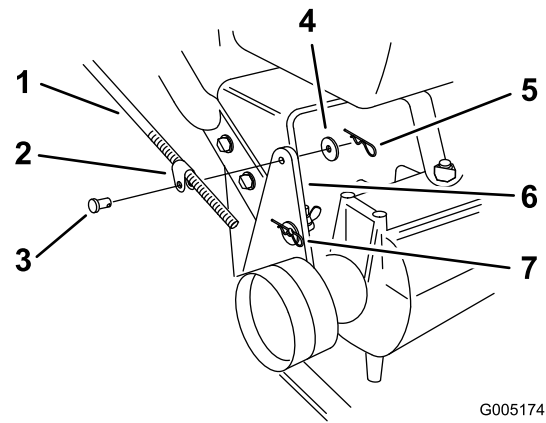

Figure 37
2. Check the operation. If adjustment is required, remove hairpin cotter, washer and clevis pin securing control rod fitting to idler bracket (Figure 37).